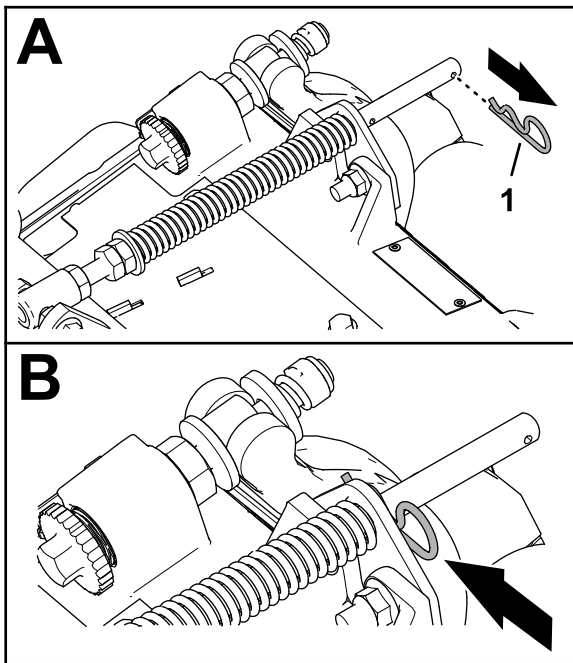

Figure 6
1. If the hairpin is installed in the rear hole of the compensation-spring rod—remove the hairpin and insert it in the hole next to the bracket (Figure 6).